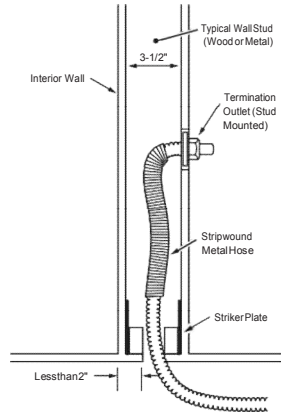

Figure 4.12 Use of Flexible Protective Conduit
- At termination points using the STANDARD FLEX termination flange, STANDARD FLEX Flexible Protective Conduit should be installed to protect the CSST in the area between the striker plates and the outlet. (See Figure 4.12)